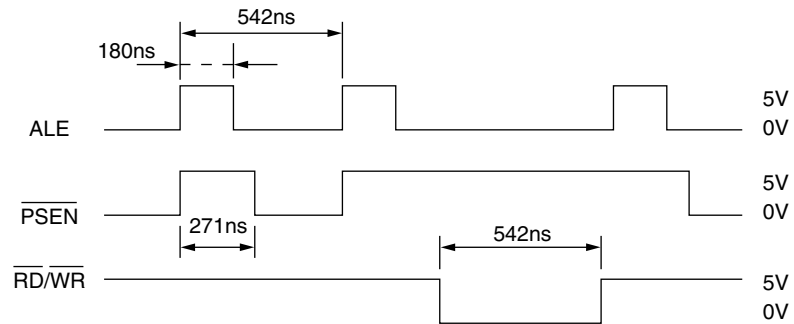

Figure B-3-3
- Yes Are ALE, $\overline{\text{PSEN}}$, $\overline{\text{RD}}$, $\overline{\text{WR}}$, and BUS signals of Q3 as shown in Figure B-3-3?